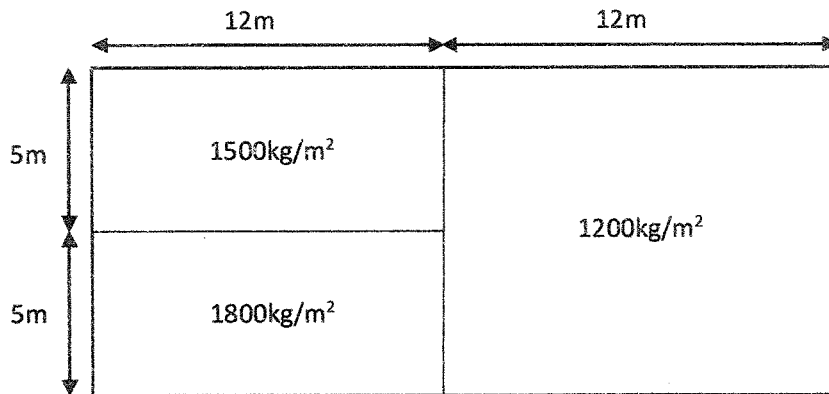

Figure 1
5. For the plan shown in Figure 1, locate the center of mass.